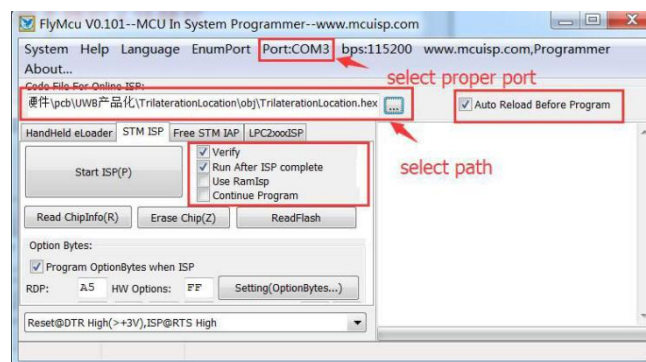

Figure 6 FlyMcu.exe set up
(1) Please make sure that BOOT0 of LocationMCU on tag board set as HIGH voltage, and are connected to componentsListSerial and computer.
(2) PK-1000 tag is powered on, open FlyMcu.exe (free on internet, click on “Language” on the menu bar, and choose “English”) and finish settings following Figure 6.